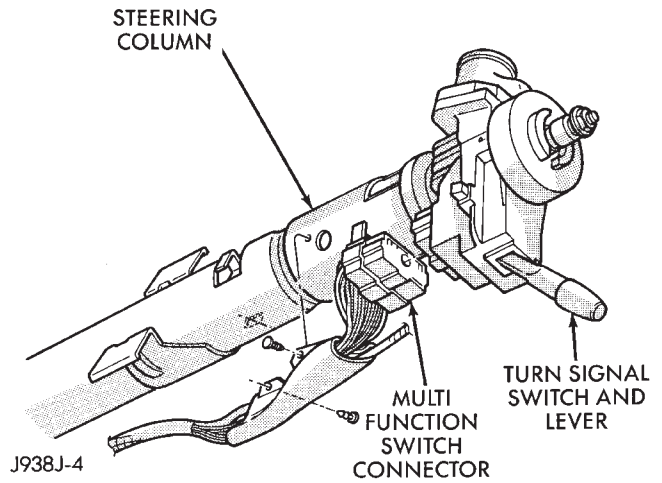

Fig. 3 Multifunction Switch Connector
- (5) Remove 6 screws holding knee blocker.
- (6) Remove steering column retaining nuts.
- (7) Lower steering column to gain access to rear of multifunction switch.
- (8) Remove switch connector (Figs. 3 and 4).